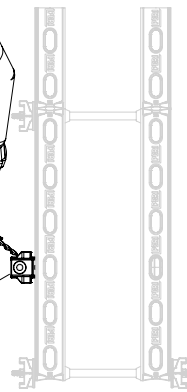

Fig. A3.13b
1. Drill hole for anchor bolt in sufficiently load-bearing ground. (Fig. A3.13b)